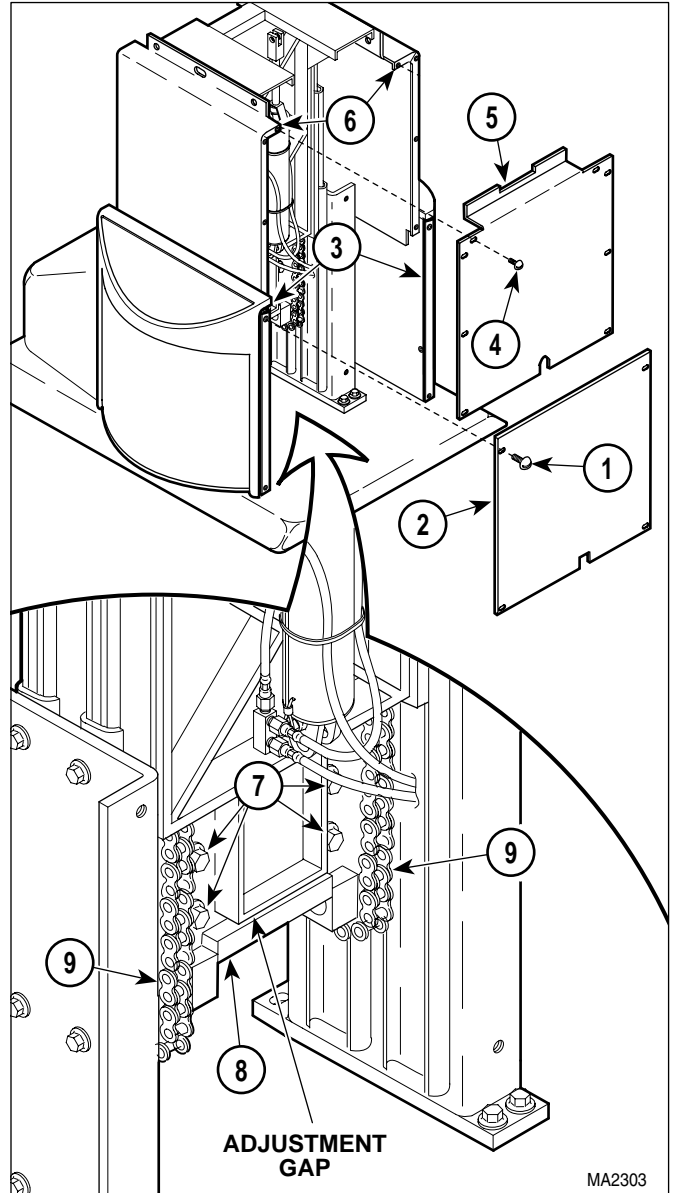

Figure 4-28. Chain Assembly Adjustment
- (1) Raise TABLE UP function all the way up.
- (2) Unplug table power cord from outlet.
- (3) Remove four screws (1, Figure 4-28) and front outer shroud (2) from left and right hand outer shrouds (3).
- (4) Remove eight screws (4) and front inner shroud (5) from left and right hand inner shrouds (6).
- (5) Loosen four screws (7).
- (6) Insert a pry bar or large screwdriver into adjustment gap and pry downward on idler adjustment weldment (8) until chains (9) are tight, but not drum tight. Tighten four screws (7).
- (7) Install front inner shroud (5) on left and right hand inner shrouds (6) and secure with eight screws (4).
- (8) Install front outer shroud (2) on left and right hand outer shrouds (3) and secure with four screws (1).
- (9) Plug table power cord into outlet.